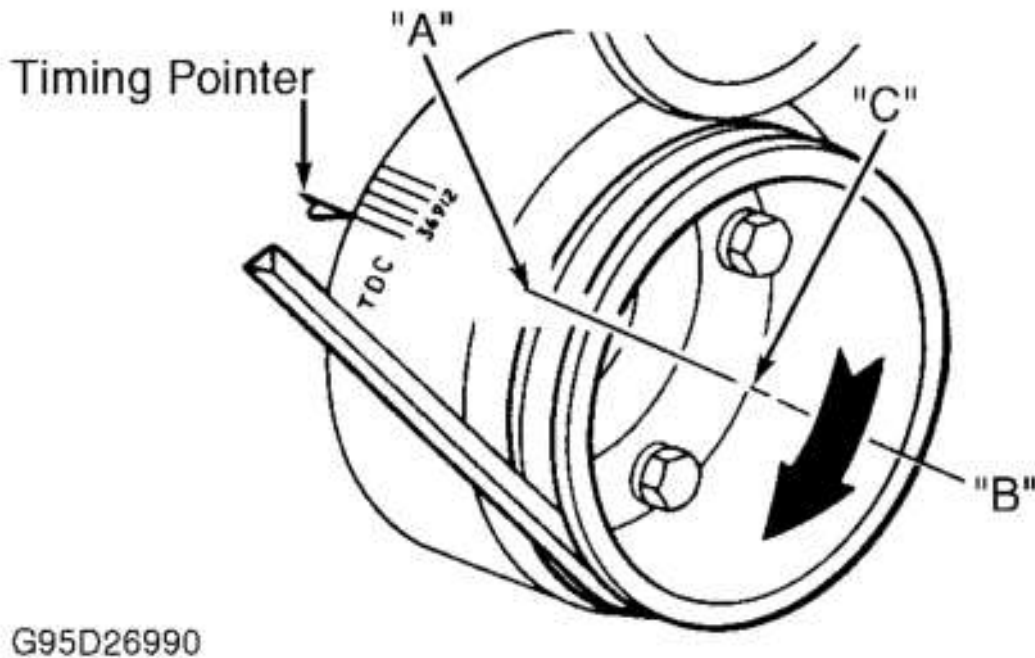

Fig. 1: Identifying Crankshaft Positions For Valve Adjustment
1. Using a remote starter (ignition off), rotate crankshaft until No. 1 piston is at TDC of compression stroke. Reference mark "A" indicates TDC. With No. 1 piston at TDC, mark references "B" and "C", 90 degrees apart. See Fig. 1.